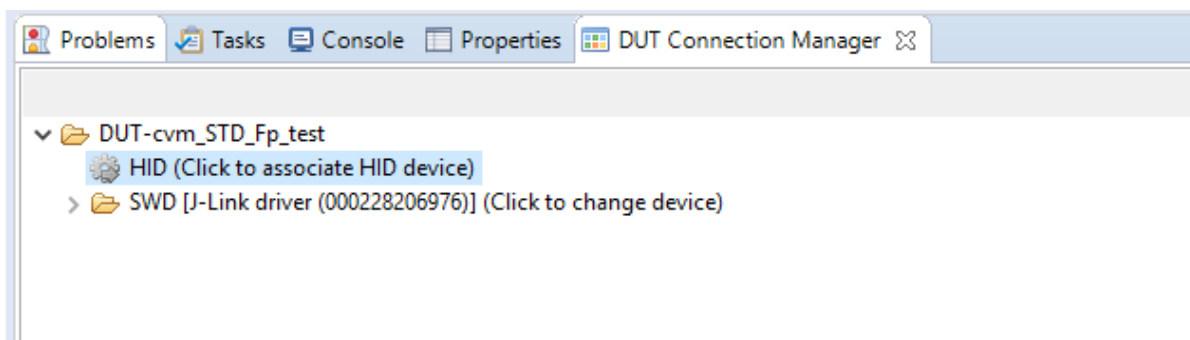

Figure 30: DUT Connection Manager View (for HID)
10. Now, Cola is disabled by default. In order to enable it, connect to the HID Interface by clicking on "**DUT Connection Manager**" tab and then click on "HID". (See Figure 30).